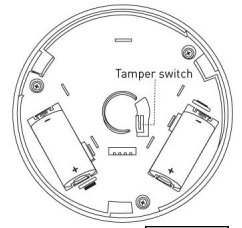

Figure 4
5. Enroll the Glass Break Detector by pressing and holding the tamper switch for 2 seconds (see Figure 4).
WARNING! The polarity of the battery must be observed, as shown (See Figure 4). Improper handling of lithium batteries may result in heat generation, explosion or fire, which may lead to personal injuries. Replace only with the same or equivalent type of battery as recommended by the manufacturer. (see Specifications)